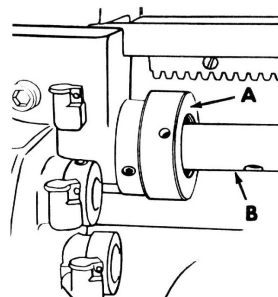

Figure 7
9. Slide lead screw (B, fig. 7) thru apron and in slipping clutch (A), aligning key of clutch with keyway in lead screw.